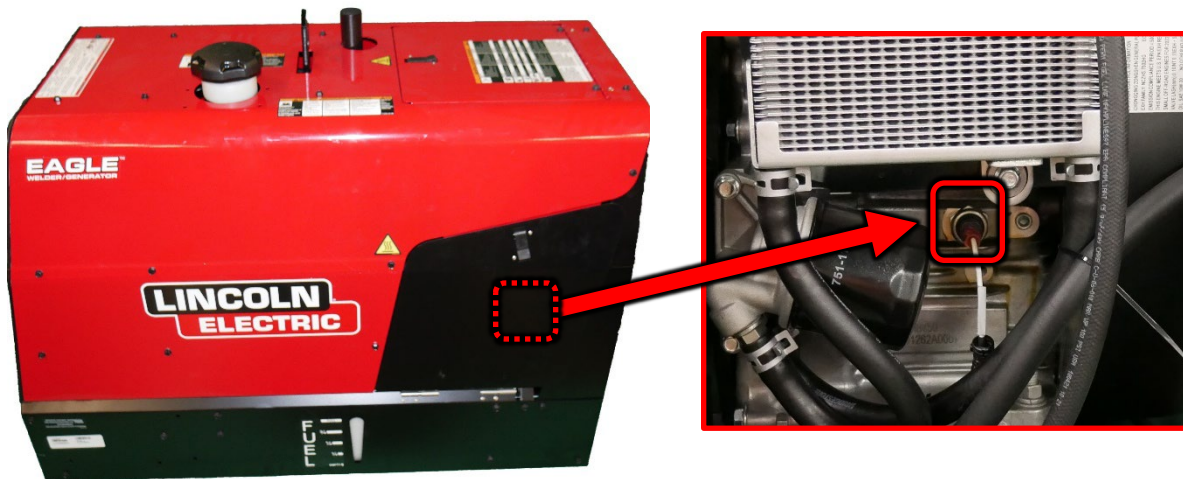

Figure F.1
1. For location of the Oil Pressure Sensor refer to Figure F.1.